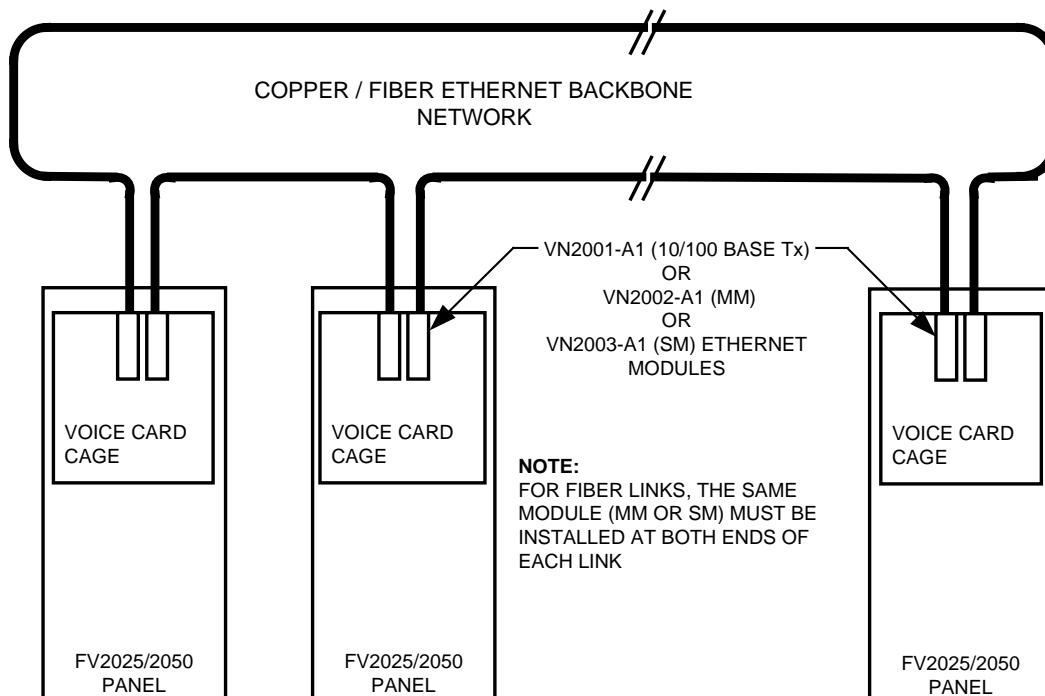

Figure 3
The VN2002-A1 Ethernet Module (MM) and the VN2003-A1 Ethernet Module (SM) are optional circuit cards that plug into the VCC2001-A1 Voice CPU card to provide two cable connections which are used for fiber links in an Ethernet Backbone network (see Figure 3). Each link in a Backbone network is independent of any other link. It can be implemented as either copper wire or fiber-optic cable without any regard to what is used for the other links in the network. Each end of a link must use the same type of circuit card. That is, if a VN2002-A1 Ethernet Module (MM) is used at one end of a link, another VN2002-A1 Ethernet Module (MM) has to be installed at the other end of the link for the link to operate correctly. The same constraint applies to using the VN2003-A1 Ethernet Module (SM).
In addition to their use in Ethernet backbone networks of FV2025/2050 Fire Voice Control Panels (as illustrated in Figure 3), the VN2002-A1 Ethernet Module (MM) and the VN2003-A1 Ethernet Module (SM) can be used to support fiber connections among standalone FN2012-A1 Ethernet Switches (modular).